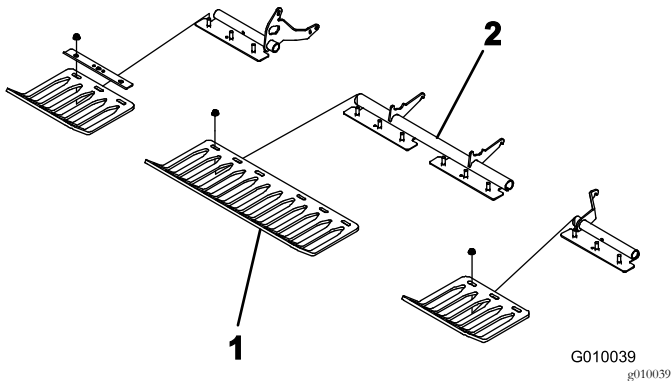

Figure 23
4. Loosely install the turf guards to the turf guard brackets with 4 turf guard clamps and 12 flange nuts (Figure 23). Do not tighten the fasteners.
Note: The turf guard clamps and flange nuts are shipped secured to the turf guard brackets (Figure 23).